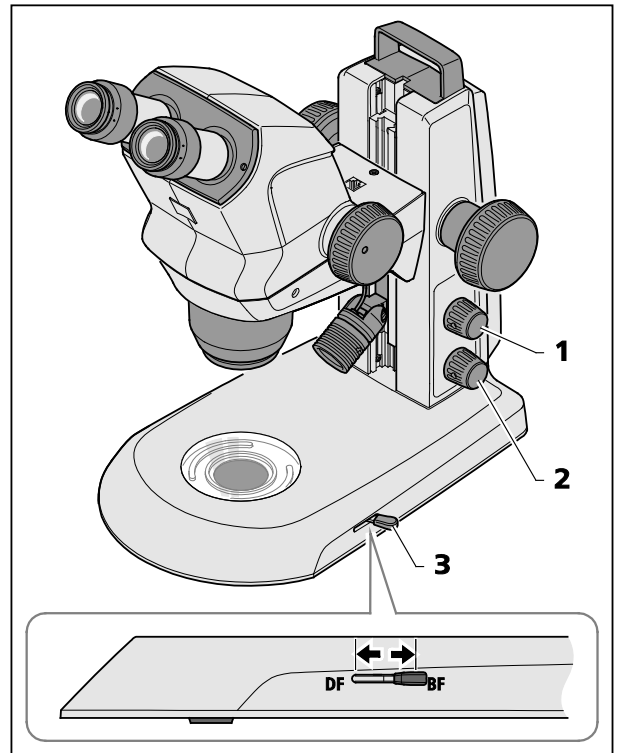

Fig. 19 Transmitted-light module in stand K EDU
- Switch transmitted-light illumination ON by pressing the lower knob (Fig. 19/2).
- Change over by adjusting the lever (Fig. 19/3) between the bright field and the dark field illumination.
- Front position: Dark field (DF)
- Rear position: Bright field (BF)
Press the upper button (Fig. 19/1) to blend in reflected light (see Section 4.2 on page 26).